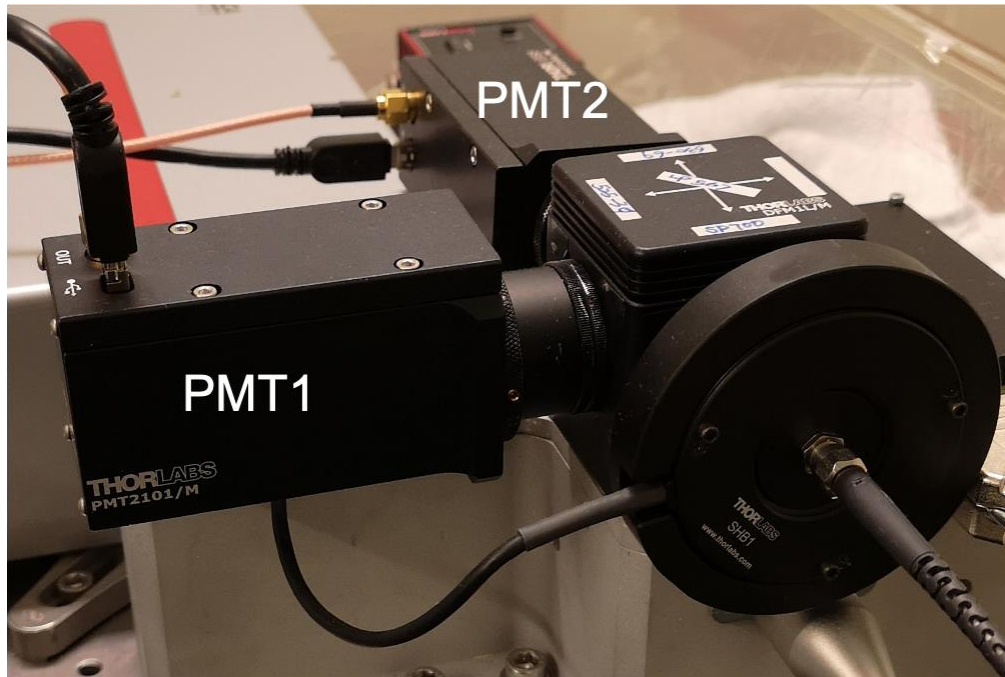

Figure 17: Kinematic cage connect to PMT shutter, TFB and PMTs assembled on top of the coupling box's cup.
Step60. Repeat steps 56 to 59 for the 630nm emission filter port and respective PMT2 (item 52) (red channel). The result is show in Fig.17